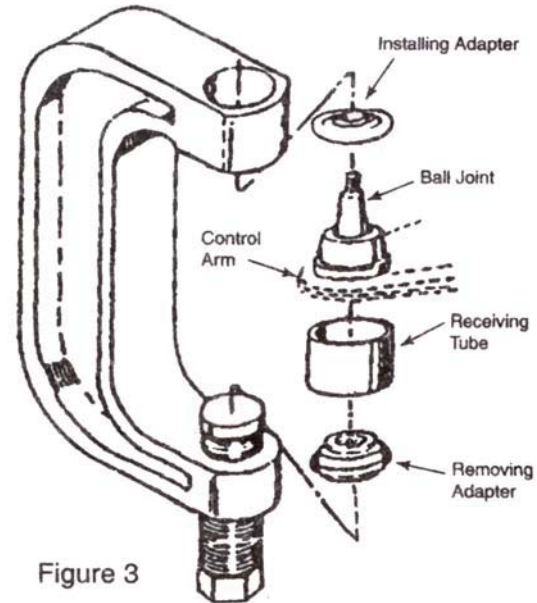

Figure 3
1. Assemble the ball joint press over the control arm as shown in Figure 3. Select the correct size receiving tube (Item 6, 7, or 8), and position it under the vehicle ball joint; refer to Figure 3.